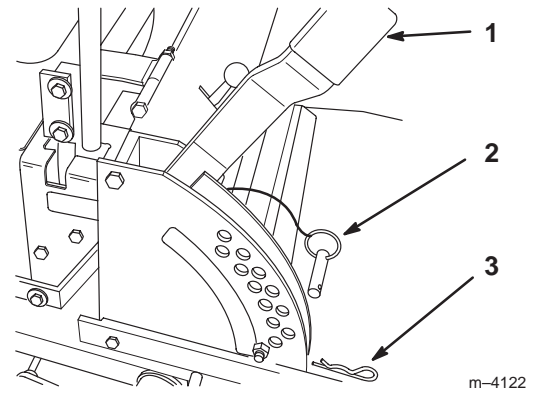

Figure 19
1. Raise the height-of-cut lever to the transport position (also the 4-1/2 in. [114 mm] cutting height position) (Fig. 19).
2. To adjust, remove the hairpin cotter and clevis pin from the height-of-cut bracket (Fig. 19).
3. Select the hole in the height-of-cut bracket corresponding to the height-of-cut desired, and insert the clevis pin (Fig. 19).
4. Secure the clevis pin with the hairpin cotter (Fig. 19).
5. Lower the height-of-cut lever onto the clevis pin (Fig. 19).